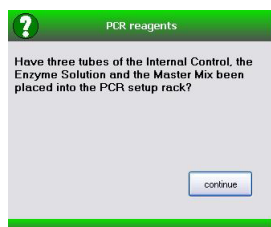

Figure 20. PCR reagents- dialog window
30. Check for the PCR reagents (Fig. 20).